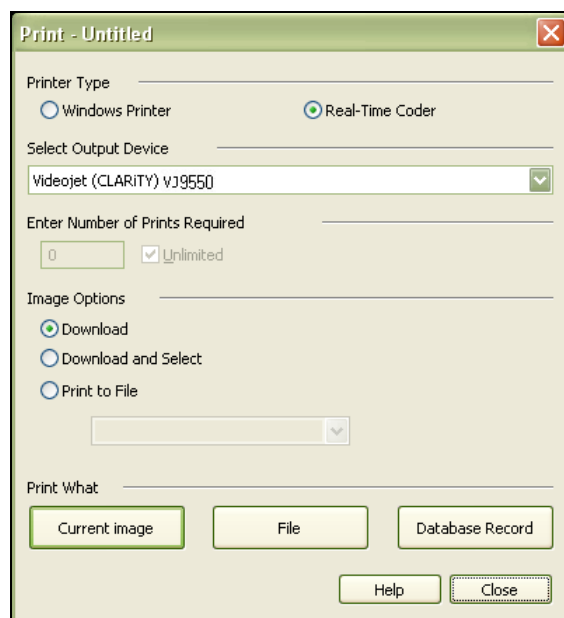

Figure 6-9: Select Output Device
- 2 Click the Printer icon from the tool bar in CLARiSOFT. The Print window appears (see Figure 6-9).